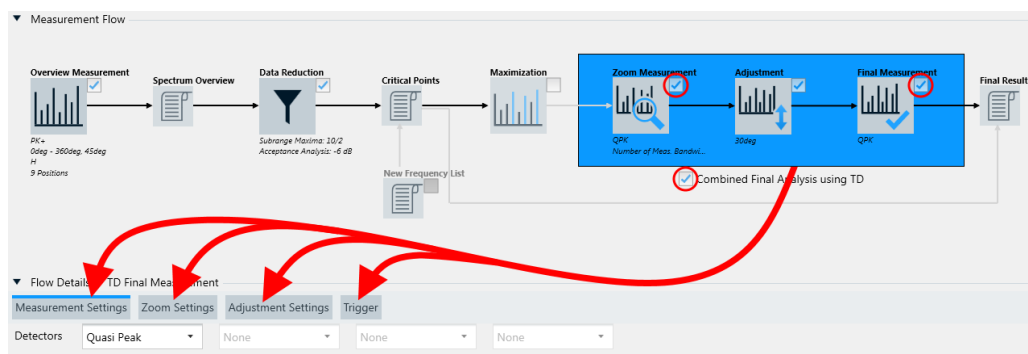

Figure 4-64: The icon for *Combined Final Analysis using TD* gives access to various settings in the *Flow Details*
- Both the Zoom Measurement and the Final Measurement are enabled, as indicated by the red circles in Figure 4-64